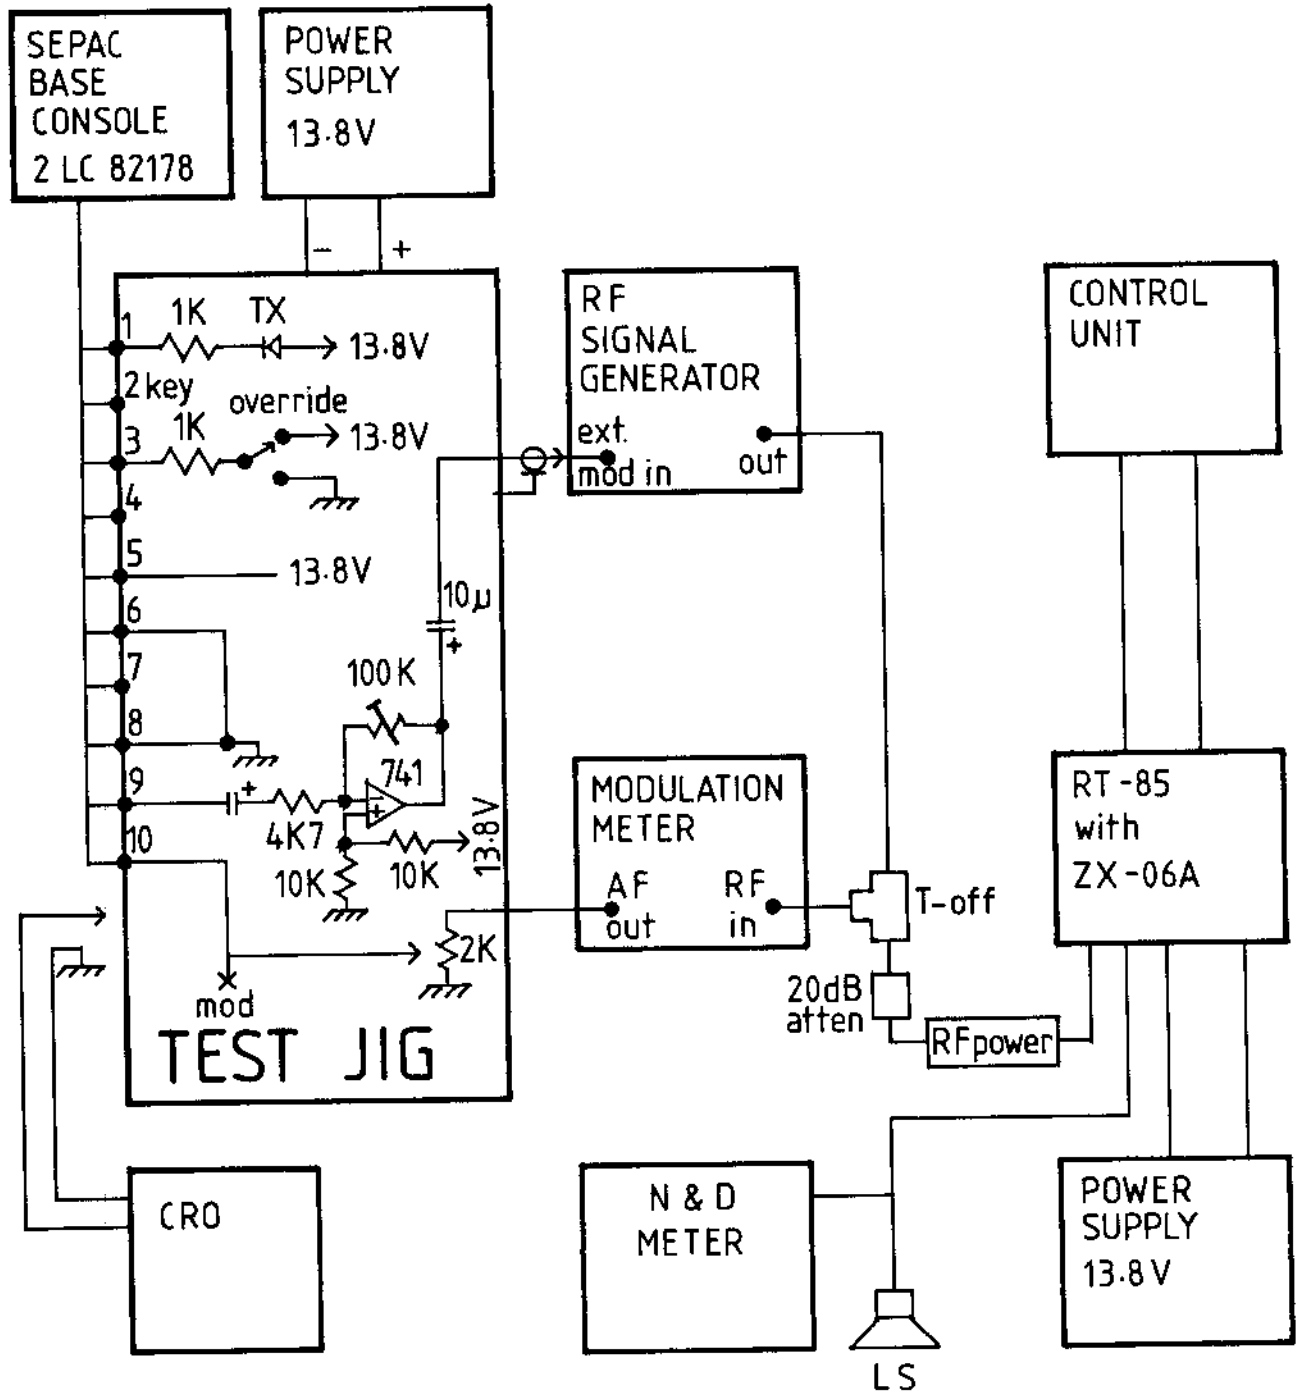

Fig. D-6 Selcall Performance Testing Set-Up
- * Test Jig shown in Fig. D-6 below.
1. Connect equipment as shown in Fig. D-6 (page D.4 - 4).
3. Reconnect as shown in Fig. D-6 (page D.4 - 4) and adjust the modulation meter to the RT-85 transmit frequency and level.
Set up equipment as shown in Fig. D-6 (page D.4 - 4).